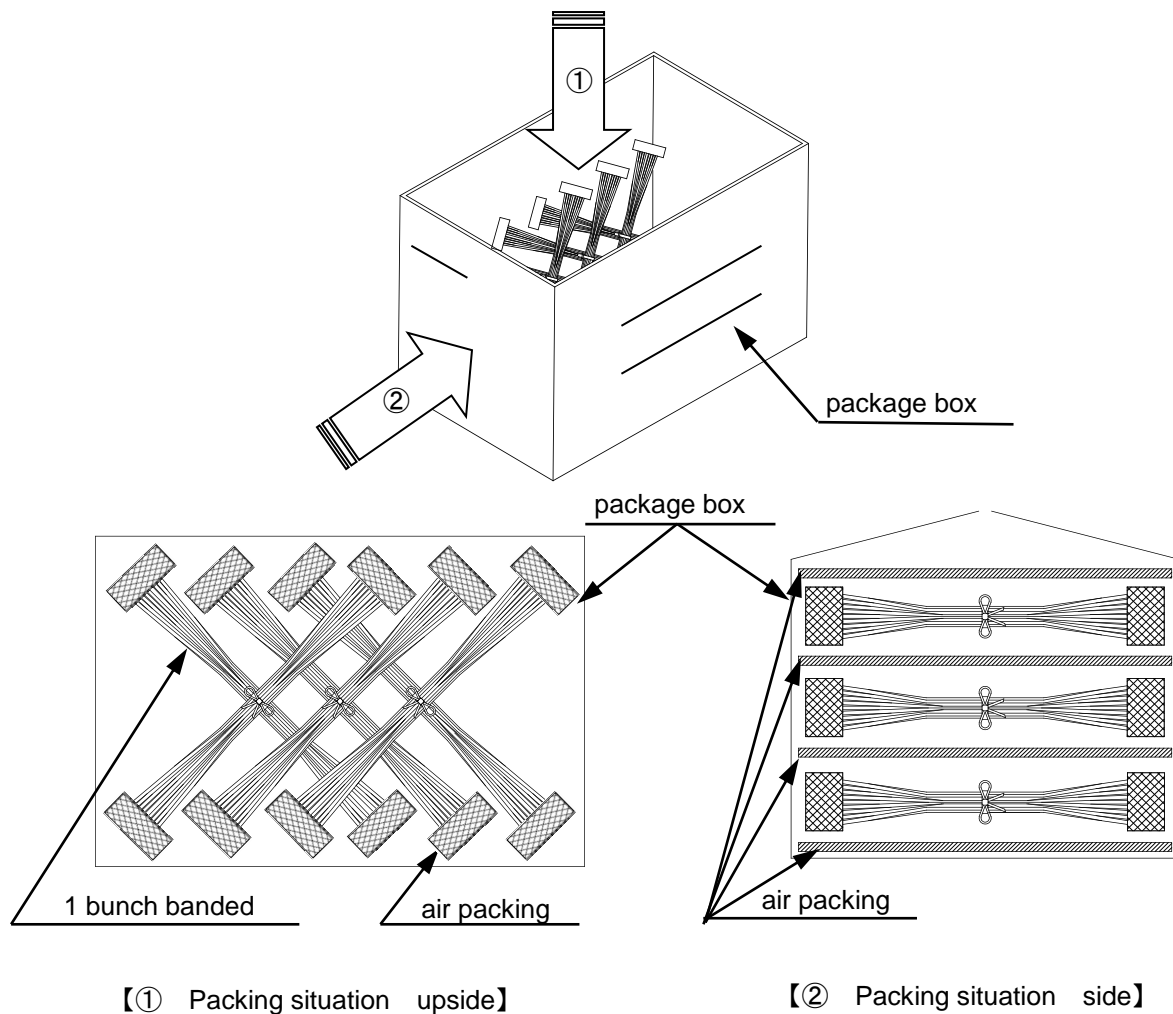

Fig.8-2 Packaging situation
Below figure (Fig 8-2) is one of examples recommended reference. Please take measure not to add force to connector for long time by stacking if you pack with another packing method for long harness.
※When packing bundle of harness after processing in package box, please follow suggested packaging order and avoid applying excessive weight or force to harnesses. (cross shape) (Fig.8-2 ①)
※Please lay air packing etc. on package box underside. In order that force by piling package boxes etc. is not added to connector for long time, please lay air packing etc. (Fig.8-2 ②)